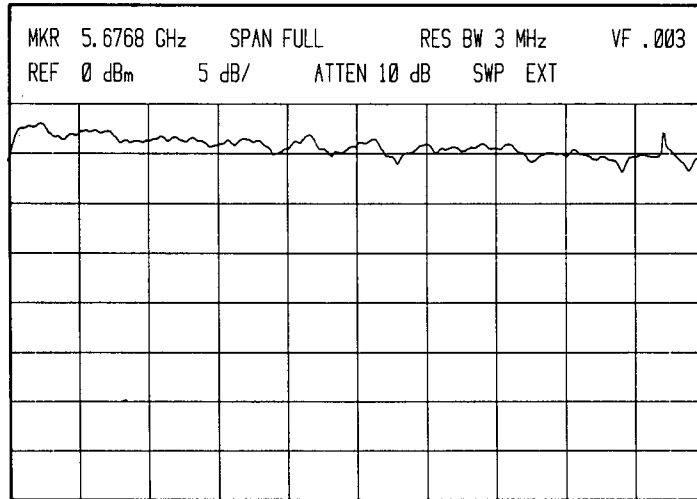

Figure 5-46. Phase Locked Spectrum Analyzer CRT Display
- d. Set sweep oscillator to automatic sweep mode and check for phase locked spectrum analyzer CRT display (Figure 5-46). If system is breaking phase lock, adjust start and stop frequencies during slow sweep (≥ 10 seconds) to obtain phase lock. Set TRACE A and TRACE B to WRITE.